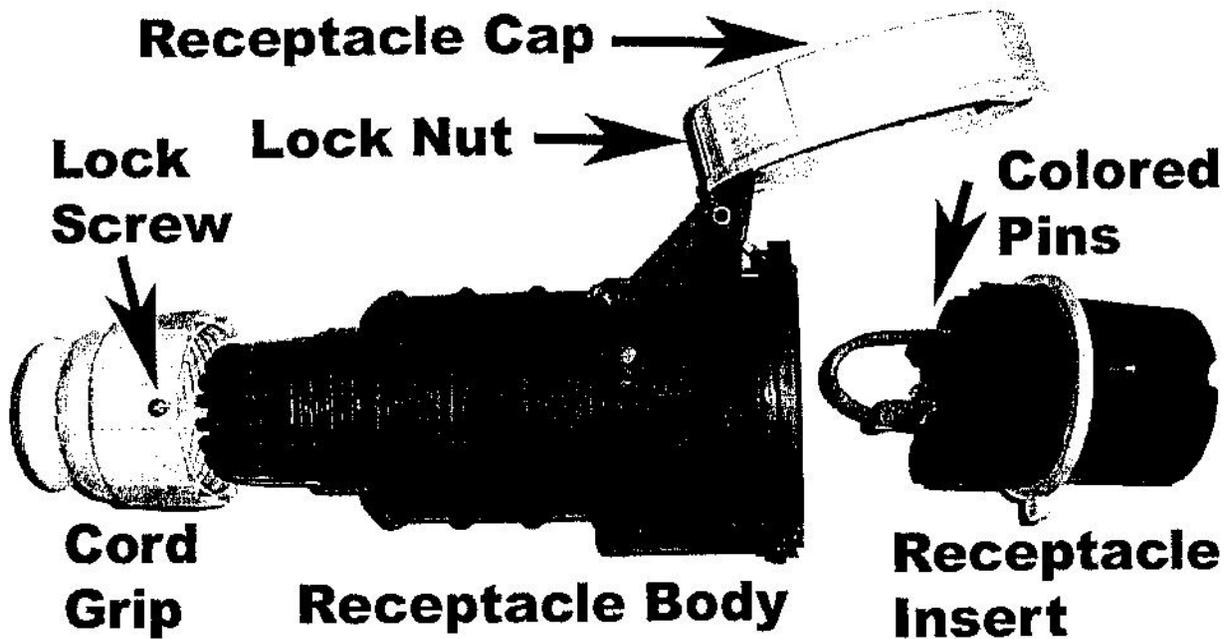

Figure 2. Power receptacle.
2. Open the receptacle cap by unscrewing the lock nut (Figure 2).
4. Remove the cord grip from the receptacle body (see Figure 2). Feed the power cord through the cord grip and the receptacle body.
8. Screw down the cord grip (Figure 2) onto the receptacle body until it is completely sealed against the power cord.